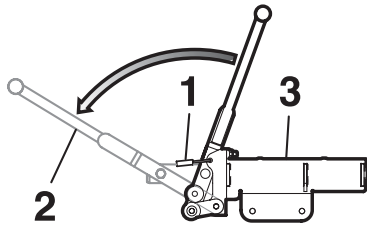

Fig. 22
- Remove the padlock (1).
- Pull the hand lever (2) on the master cylinder (3) fully outwards (over-press) (Fig. 22)